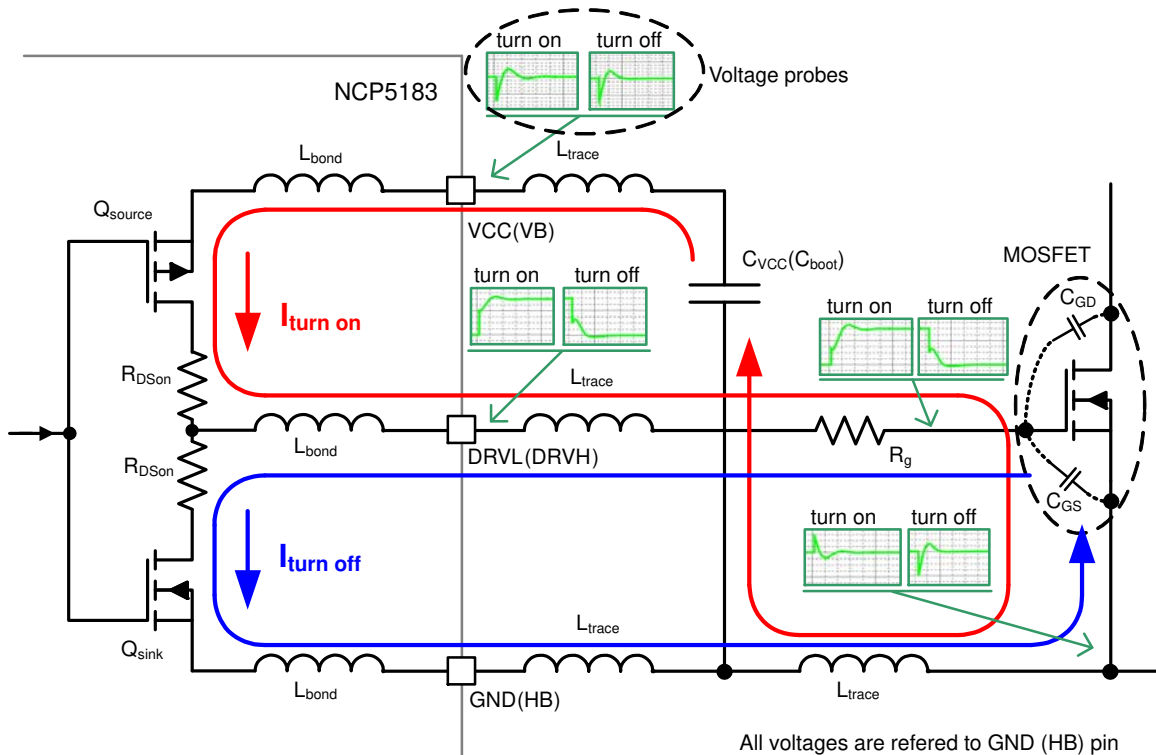

Figure 27. Equivalent Circuit of Power Switch Driver
A capacitor connected from VCC (VB) to GND (HB) terminal is source of energy for charging the gate terminal of an external MOSFET(s). For better understanding of this process see Figure 27 (all voltages are related to GND (HB) pin). When there is a request from internal logic to turn on the external MOSFET, then the  $Q_{source}$  is turned on. The current starts to flow from  $C_{VCC}$  ( $C_{boot}$ ), through  $Q_{source}$ , gate resistor  $R_g$  to the gate terminal of the external MOSFET (depicted by red line). The current loop is closed from external MOSFET source terminal back to the  $C_{VCC}$  ( $C_{boot}$ ) capacitor. After a while the  $C_{GS}$  capacitance is fully charged so no current flows this path. When the external MOSFET going to be turned off, the internal  $Q_{source}$  is turned off first
and after a short dead time  $Q_{sink}$  is turned on. Then  $C_{VCC}$  ( $C_{boot}$ ) is not a source any more, the source of energy became the  $C_{GS}$  (and all capacitance connected to this terminal, like Muller capacitance). Now the current flows from gate terminal, through  $R_g$  resistor and  $Q_{sink}$  back to the MOSFET (depicted by blue line). In both cases (charging and discharging external MOSFET) there are several parasitic inductances in the path. All of them play a role during switching. In Figure 27 an influence of the inductances in some places is showed. On VCC (VB) pin a drop during turn on and turn off is observed. If too long an UVLO protection can be triggered and the driver can be turned off subsequently, which result in improper operation of the application.